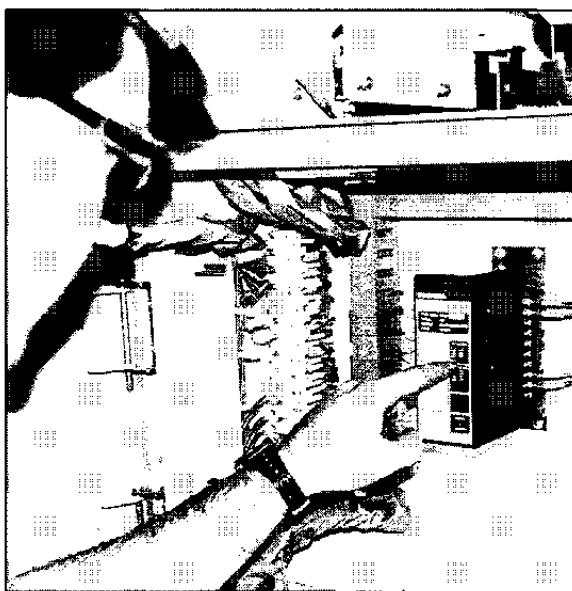

Fig. 44 Overload Setting Check
- Overload relays should be checked to be sure they are selected and adjusted to the proper settings per the load nameplate data (Fig. 44).